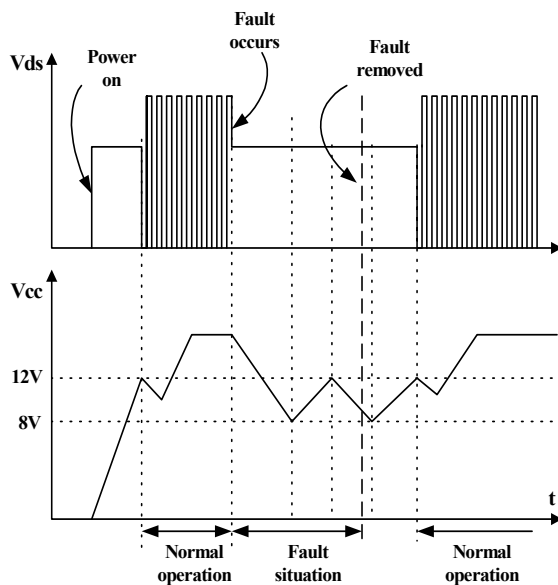

Figure 7. Auto restart operation
3. Protection Circuit : The FSCM0765R has several self protective functions such as over load protection (OLP), over voltage protection (OVP) and thermal shutdown (TSD). Because these protection circuits are fully integrated into the IC without external components, the reliability can be improved without increasing cost. Once the fault condition occurs, switching is terminated and the Sense FET remains off. This causes Vcc to fall. When Vcc reaches the UVLO stop voltage of 8V, the current consumed by FSCM0765R reduces to the startup current (typically 25uA) and the current supplied from the DC link charges the external capacitor (Ca) that is connected to the Vcc pin. When Vcc reaches the start voltage of 12V, FSCM0765R resumes its normal operation. In this manner, the auto-restart can alternately enable and disable the switching of the power Sense FET until the fault condition is eliminated (see Figure 7).